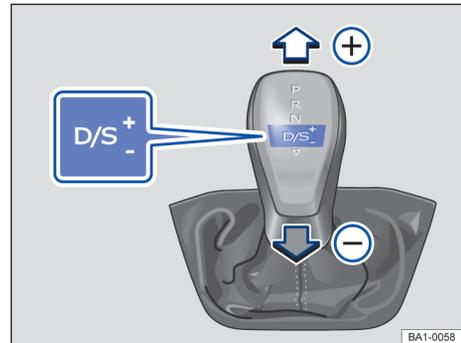

Fig. 97 Selector lever in Tiptronic position.
- Move the selector lever forward (+) or backward (-) to increase or decrease the speed → Fig. 97. ▶